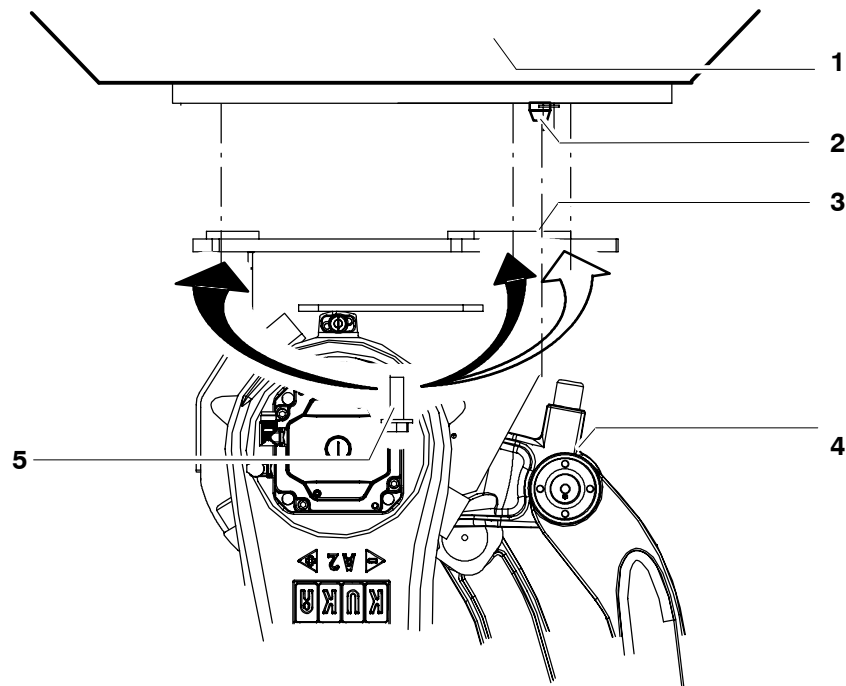

Fig. 48 Installing the manipulator on the ceiling
- (2) Raise the manipulator (Fig. 48/4) vertically with the fork lift truck and place it onto the ceiling structure (1).